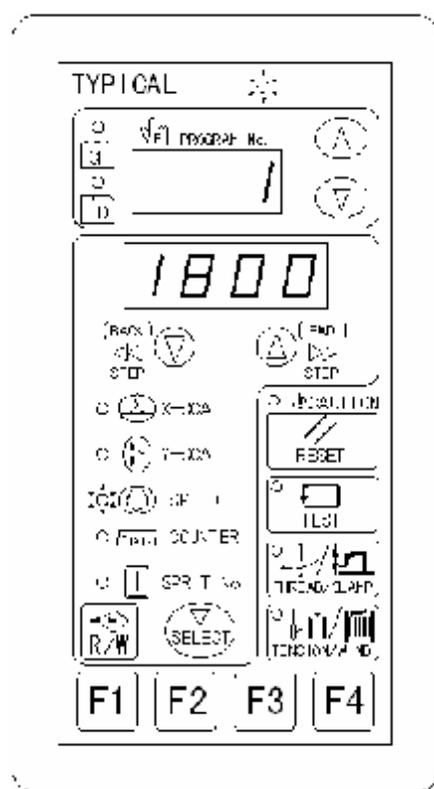

Fig. 5-1
1. In the sewing speed set-up interface (as shown in Fig. 5-1), press